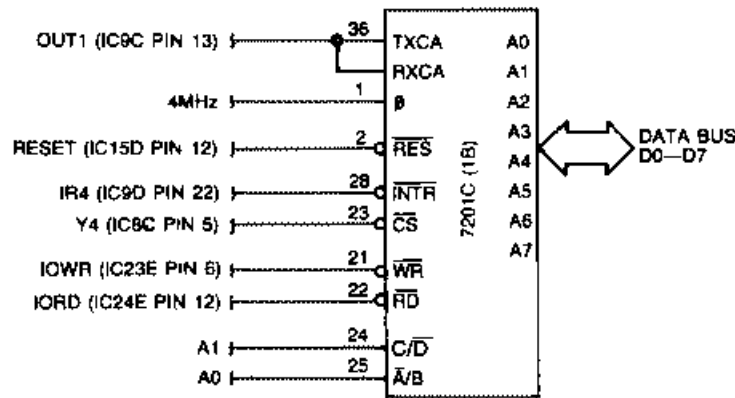

FIGURE 2-50. CPU BUS TO 7201 CIRCUIT
2.3.4.2 7201 Multi-Protocol Serial Controller (Figure 2-50 through 2-53)